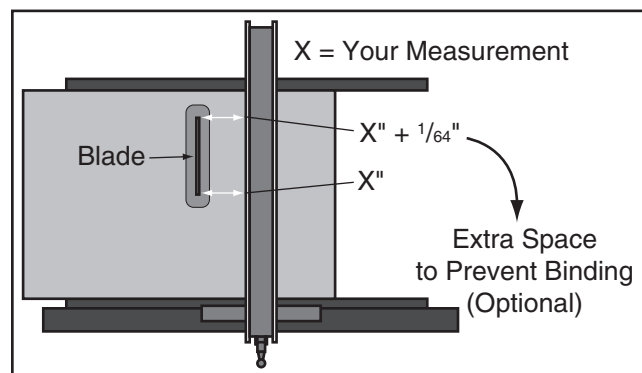

Figure 117. Adjusting fence with a $\frac{1}{64}$ " offset.
Some woodworkers prefer to offset the rear of the fence $\frac{1}{64}$ " from the blade, as shown in **Figure 117**, to help prevent the workpiece from binding and burning.
4. Measure the distance between the tooth and the fence face, as shown in **Figure 117**.